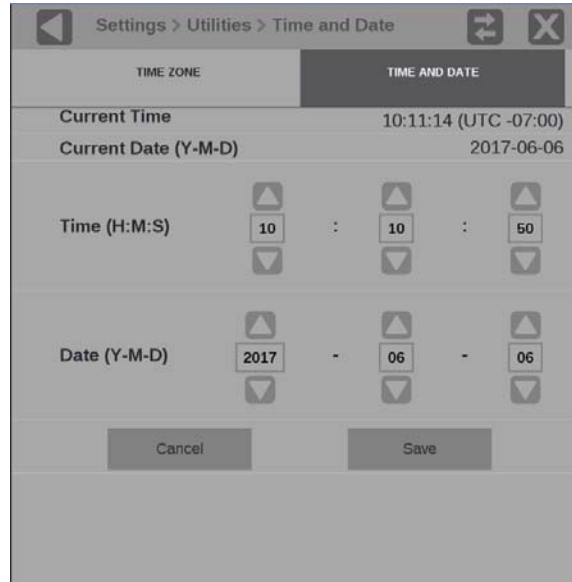

Figure 73: Time and Date submenu
7. Adjust the time and date using the up and down arrows as needed. The time setting uses a 24-hour clock, so no AM/PM setting is required. (See Figure 73.)